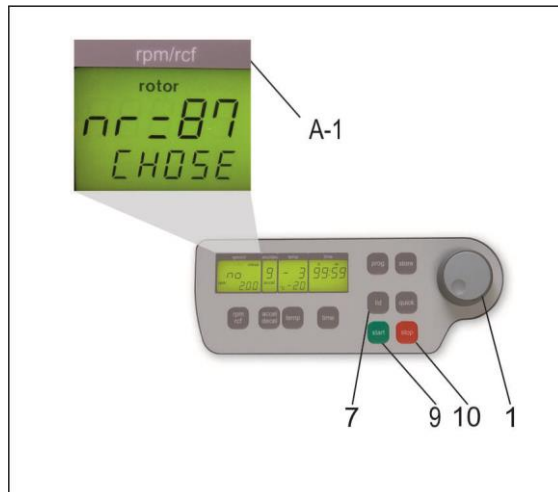

Figure 2
Switch on the unit and open the lid. Press simultaneously the keys, "lid" (7) and "stop" (10). In the display, "rpm/rcf" (A-1), appears the previous chosen rotor type, i. e. "87". With the potentiometer (1), choose the used rotor now, (see Figure 2). To select the data, in the unit, please press the, "start" (9) key. Inside the display (A-1), the confirmation appears as. "store".